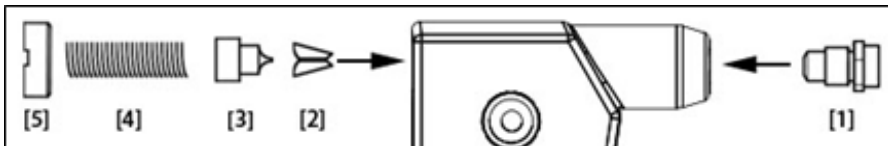
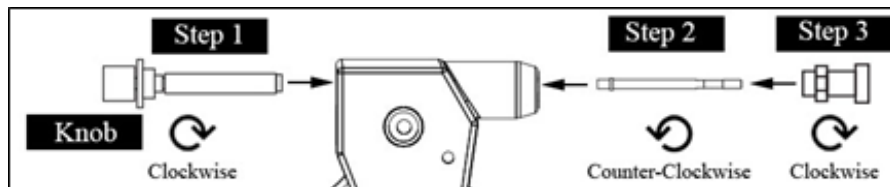

Figure 1: Installing accessories for fastening rivet
Figure 2: Installing accessories for fastening rivet nut or rivet stud
- Install the accessories as illustrated in Figure 1. If required, remove the rivet nut accessories by following the steps in Figure 2 in reverse.
1. Remove the rivet parts by following the steps in Figure 1 in reverse. Take care during the removal as the jaw casing is spring loaded.
3. Install the accessories as illustrated in Figure 2. Secure the accessories with correct rotation as indicated below each of the accessories. Hold the knob when installing the rivet nut mandrel.